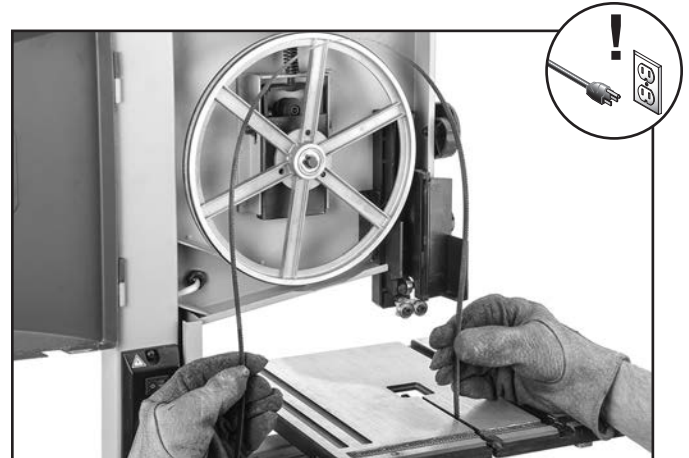

Figure 37. Example of removing blade.
7. Slip blade off of wheels, slide it through table slot (see **Figure 37**), and remove it from machine.